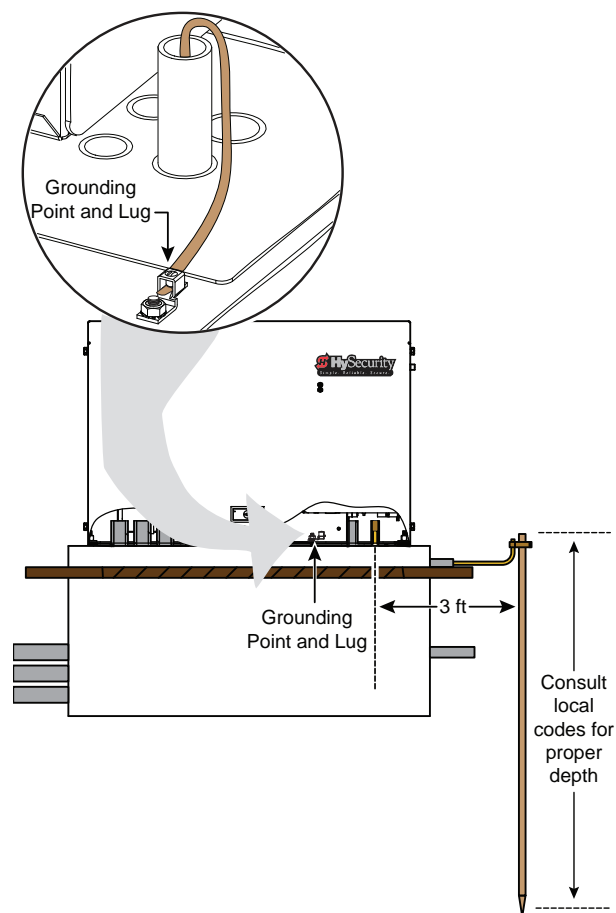

Figure 21. Install Earth Ground
1. Install a grounding rod per local building codes. See Figure 21.